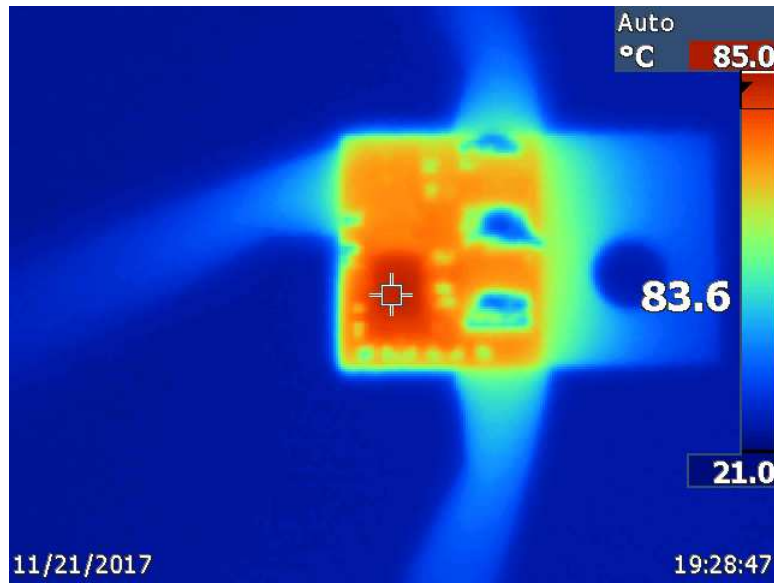

图 17. Thermal Image at 24 V_{IN}, 5V_{OUT}, 600 mA I_{OUT}
The infrared (IR) thermal image in 图 17 was taken at the steady state with 24 V_{IN} and the LMR36006 output at a load of 600 mA (no airflow). The ambient temperature is approximately 22°C. The maximum IC temperature is 85°C.